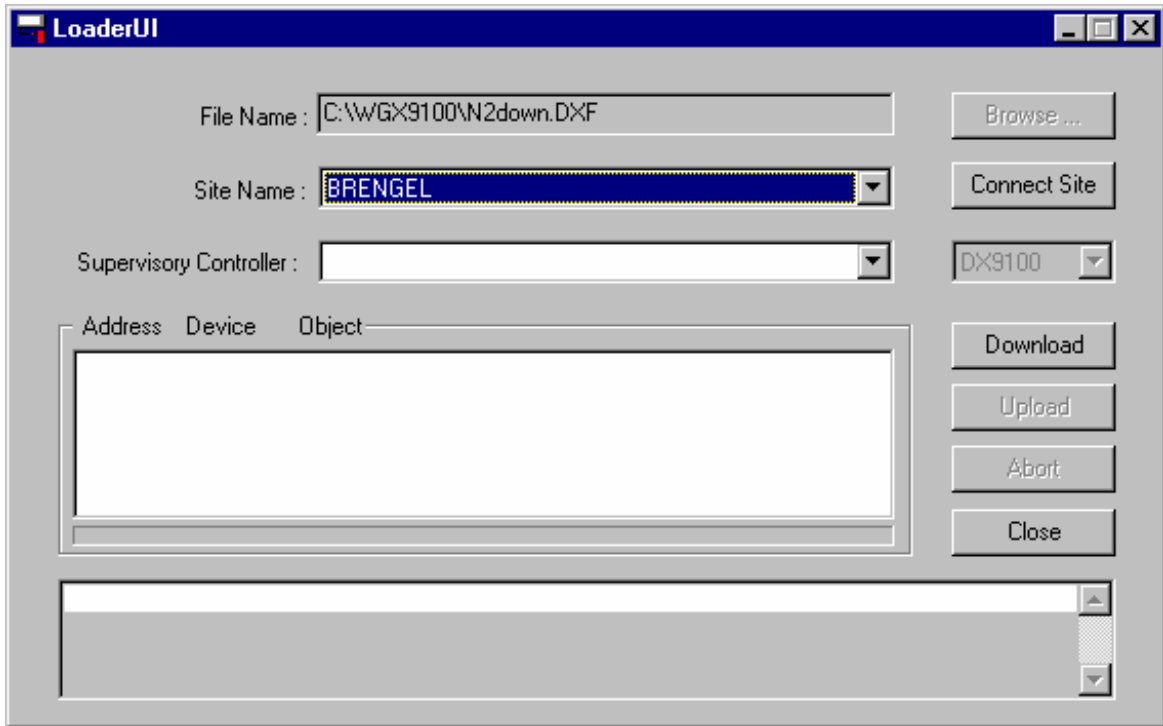

Figure 11-2: Loader UI Dialog Box for Download
4. Click OK. The Loader UI program appears (Figure 11-2).